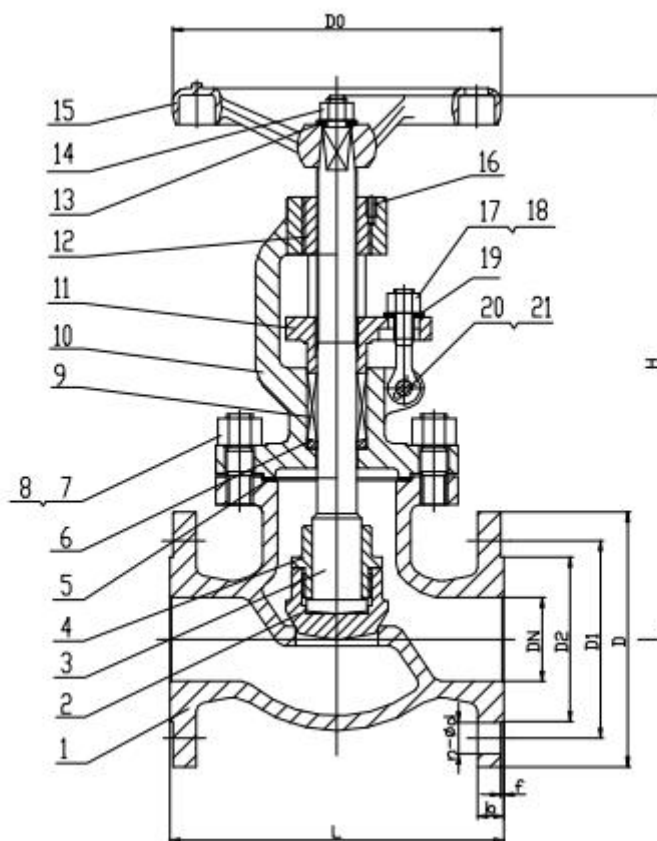

Figure 1 Manual Flanged Globe Valve
- 3.1 The basic structure of the globe valve is shown in Figure 1.